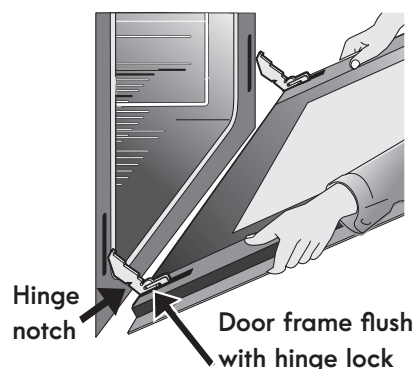

Figure 15: Remove door position
1. Firmly grasp both sides of oven door along the door sides. Do not use the oven door handle (Figure 15).
2. Hold the oven door at the same angle as the removal position. Carefully insert the hinge levers into the oven frame until you feel the hinge levers are seated into the hinge notches. The hinge arms must be fully seated into the hinge notches before the oven door can be fully opened. (Figure 15).